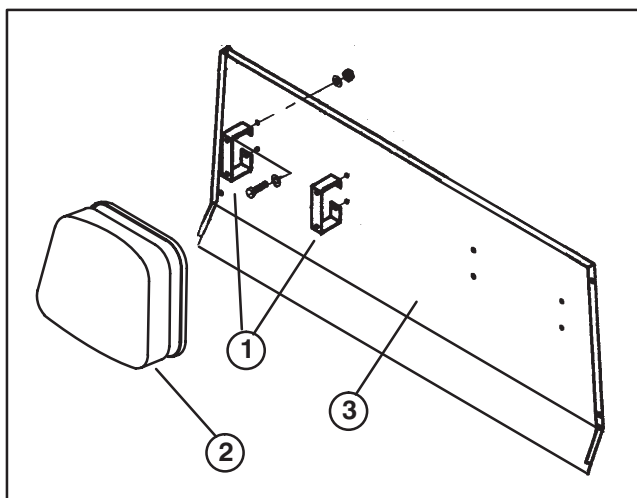

Figure 5
9. Mount (2) new seat brackets to each seat back cushion with (4) 1/4–20 x 3/4" lg. capscrews and 1/4" flat washers previously removed (Fig. 5).
10. Mount each set of seat brackets w/cushions to rear panel with (4) M6 x 16mm capscrews, (6) washers and nuts. Position components as shown in figure 5.